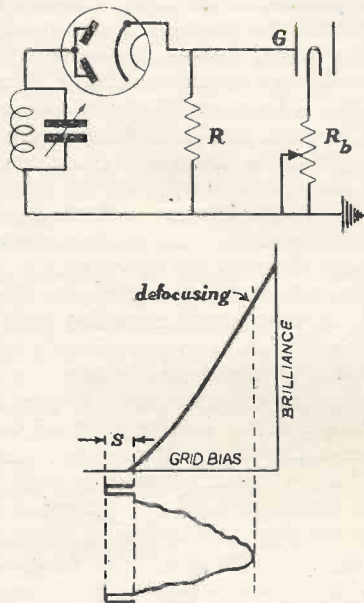

Fig. 1 The tube can be directly connected to the diode as shown, if sufficient voltage is available.
Fig. 1 shows the circuit in which this can be done. The output from the last radio frequency tuned circuit is rectified by the diode and this rectified current flows through the load resistance R. The grid of the tube is connected to the top of R and the
The reason for this will be seen on looking again at the curve of Fig. 1 and imagining it to represent the anode current of the video valve. The grid of the valve is biased by the cathode resistance shown, and the signal voltage will increase the anode current in exactly the same way as it increased the brightness of the tube. These variations in anode current will be handed on to the grid of the tube through the coupling condenser, but instead of producing a decrease in bias they will be of such a polarity that they increase the bias. The inclusion of the video valve without any modification has therefore resulted in a reversal of polarity.
4. This should also be compared with Fig. 1 of last month's article.